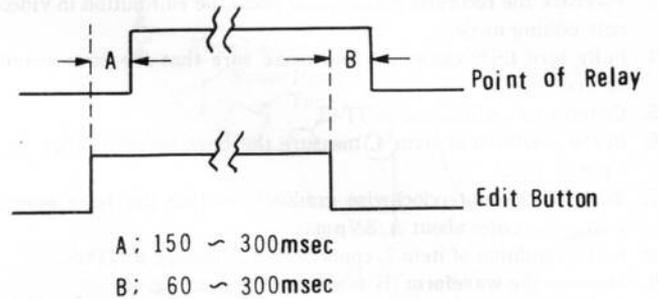

Fig. 44
3. Make sure that the delay time becomes as shown in Fig. 44.